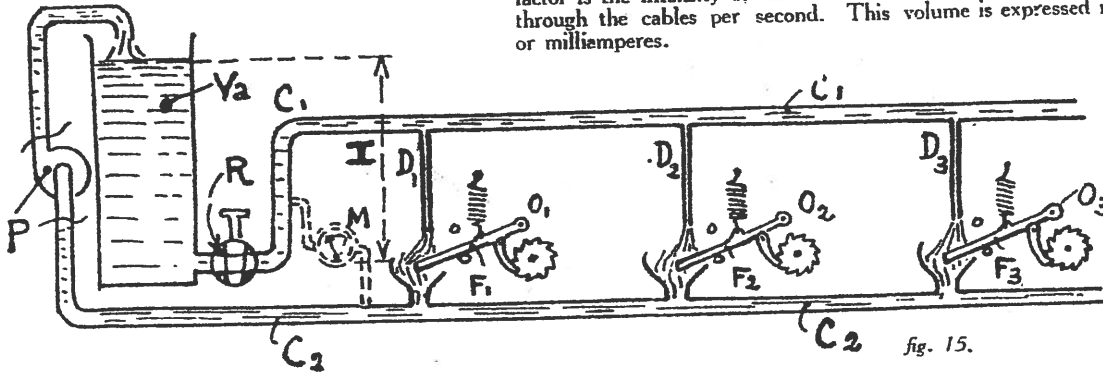
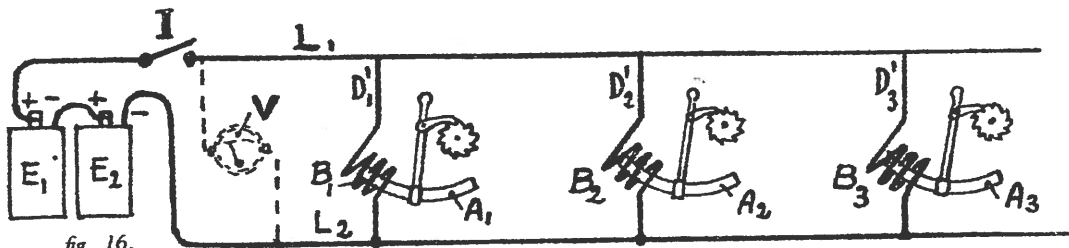

fig. 15.
fig. 16.
**SYNOPSIS OF ELECTRICAL PRINCIPLES.**—An Installation for time distribution, as shown diagrammatically on fig. 16, can be compared with the hydraulic arrangement shown on fig. 15.
When wires L1 and L2 are connected directly by means of a metal part, a short circuit is produced. This short-circuit is equivalent to the phenomena produced in the hydraulic installation shown on fig. 15, when the two pipes C1 and C2 communicate through a very wide opening. In this case the reservoir is rapidly exhausted and the difference in level H becoming too small, the blades do not receive any more energy. Similarly, when a short-circuit is produced by a metal part connecting the wires L1 and L2, the metal piece offers less resistance to the flow of the current than the coil B. This current of very high intensity (exceeding 10,000 times the consumption of a receiver) causes a very quick drop of the voltage and at the same time a permanent deterioration of the battery.